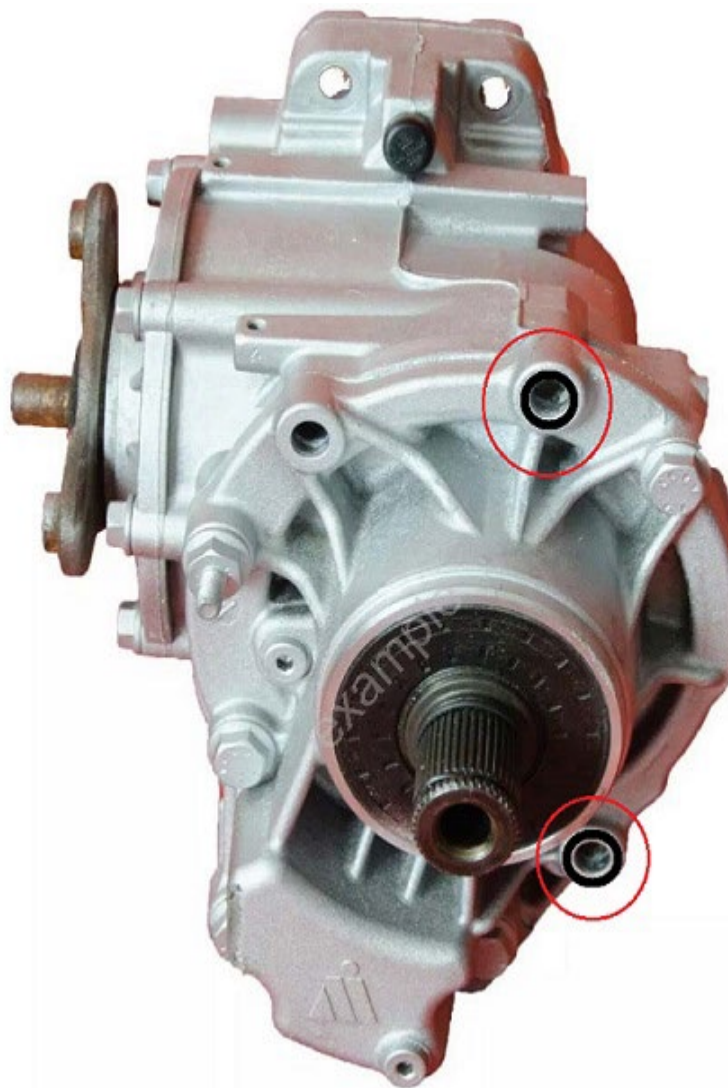

Figure 5. Silicone sealant at bolt holes.
4. Apply silicone sealant (part number D 174 003 M2) continuously to the holes of the housing bolts just before installation (Figure 5, red circles).